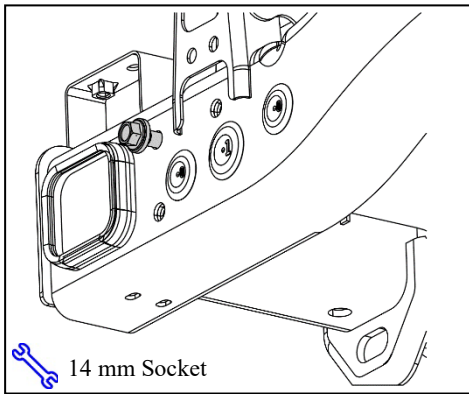

Fig. 3-1
- b. Torque fasteners to  $19 \text{ N}\cdot\text{m} \pm 4 \text{ Nm}$ . (Fig 3-1)
1. Insert one (1x) fine thread M10 Bolt onto the frame in the location shown in Fig 3-1.